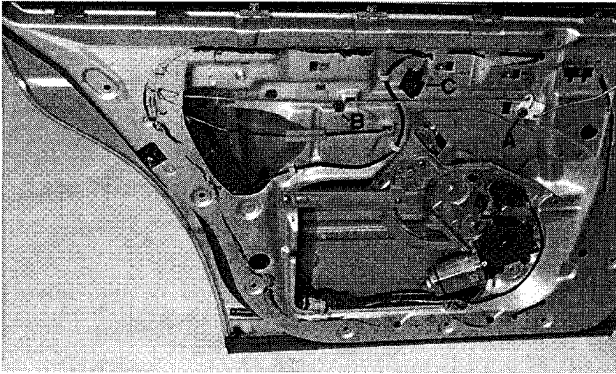

Fig. 11. Rear door lock button linkage rod retainer (A), rod retaining clip (B), and harness connector (C).
6. Remove screw from lock button linkage rod retainer. Lift rod out of retaining clip. See Fig. 11.